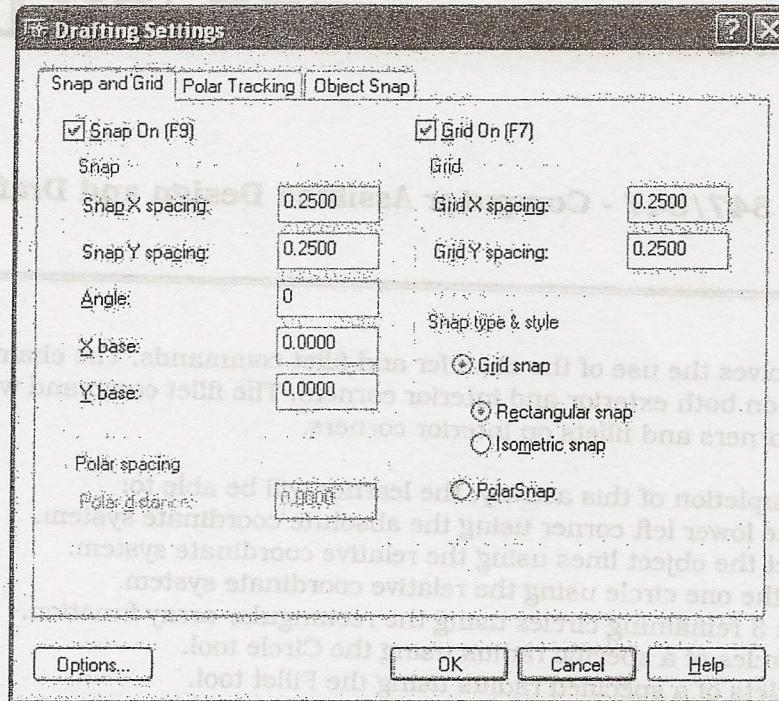

Figure 1 The Snap and Grid section of the Drafting Settings dialog box
2. Choose Tools>Drafting Settings..., click the Snap and Grid tab (Figure 1):